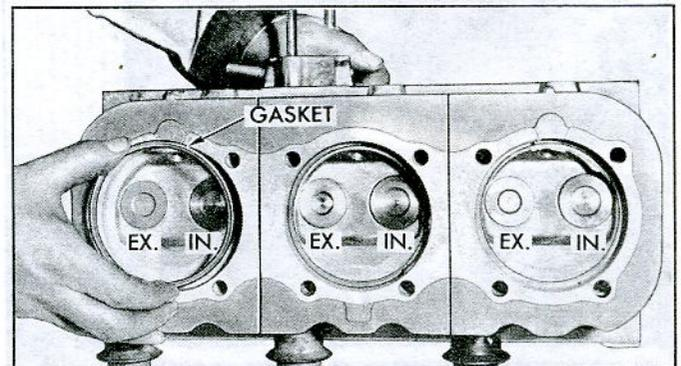

Fig. 69—Cylinder Head Gasket Installation
- Place cylinder head gaskets in left cylinder head combustion chamber (fig. 69).